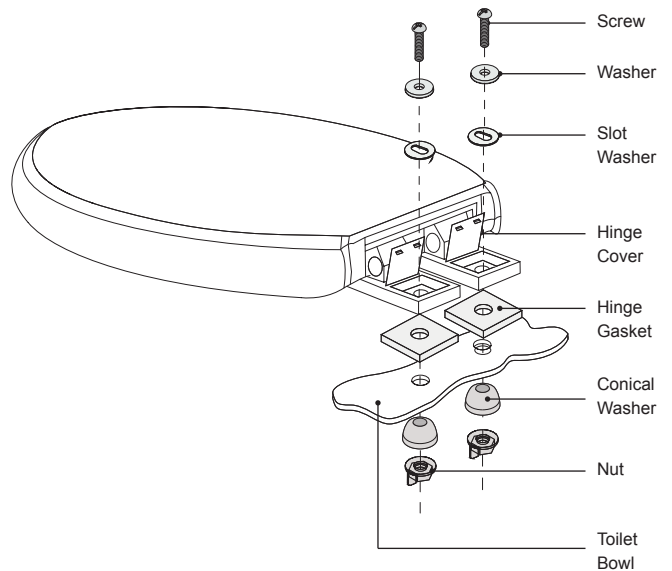

Figure 15
- 3 Center the toilet seat over the ceramic bowl, then tighten each mounting screw with a slot head screwdriver (Figure 15).